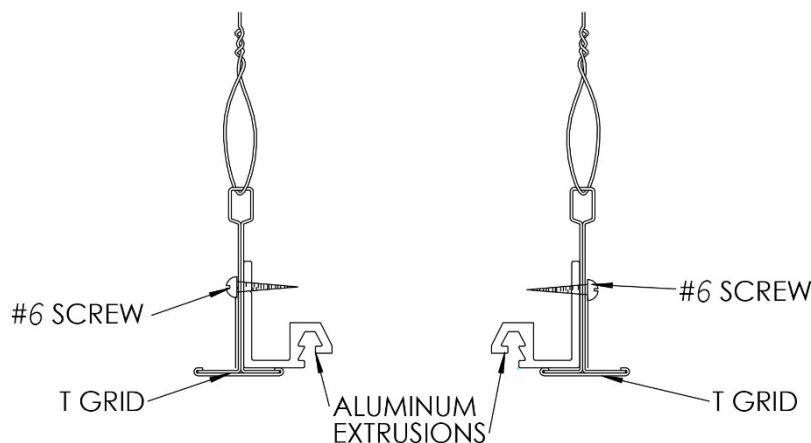

FIGURE 1
1. Position aluminum extrusions on the inside lip of the “T” grid as shown and attach with #6 self-drilling screws 18” on center (stagger seams, as necessary). **See Figure 1**